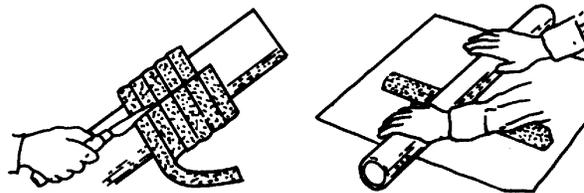

Figure F-3A.
Step 1: Determine how much bulk packing will be required to fill the seal cavity and wrap it around a rod the same diameter as the shaft. With the packing wrapped around the rod, cut through each turn as shown in Figure F-3A.